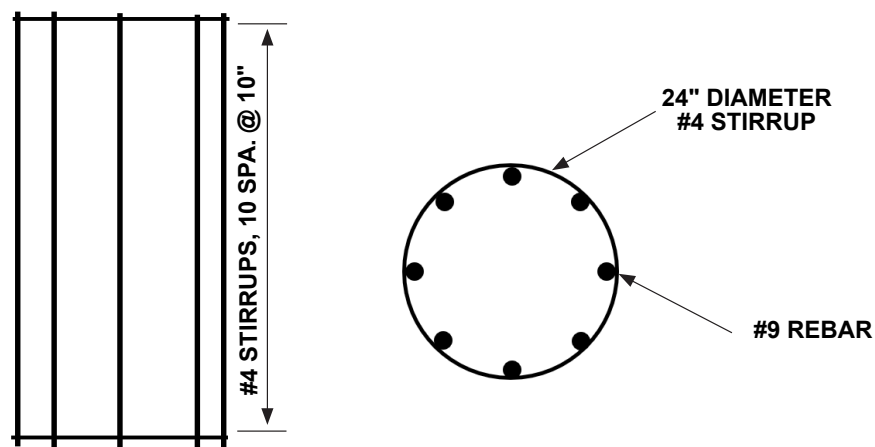

Figure 3
2. In the hole, place MSC with a 24" [610 mm] diameter rebar cage. See Figure 3 for the rebar cage. The rebar cage consists of eight (8) #9 Grade 60 reinforcing bars and 24" [600 mm] diameter, #4 stirrups spaced at 10" [250 mm] on center. The connections can be tack welded or tie wired, as desired by the assembler/installer or specifying agency. The rebar cage is placed with a minimum of 3" [75 mm] clearance on all sides. If the specifying agency requires a deeper footing, the length on the rebar cage will be increased by the amount for the extra depth of the footing.